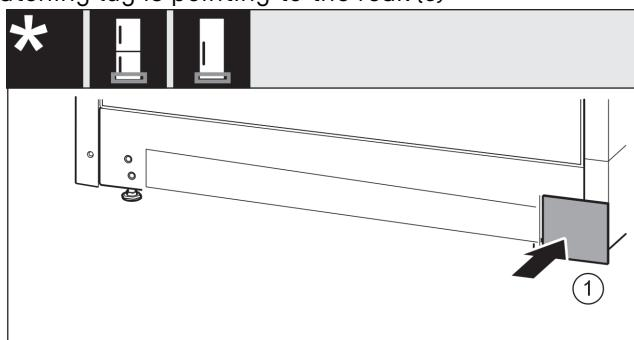

Fig. 35
- ▶ Put back the cover on the other side. Fig. 35 (1)